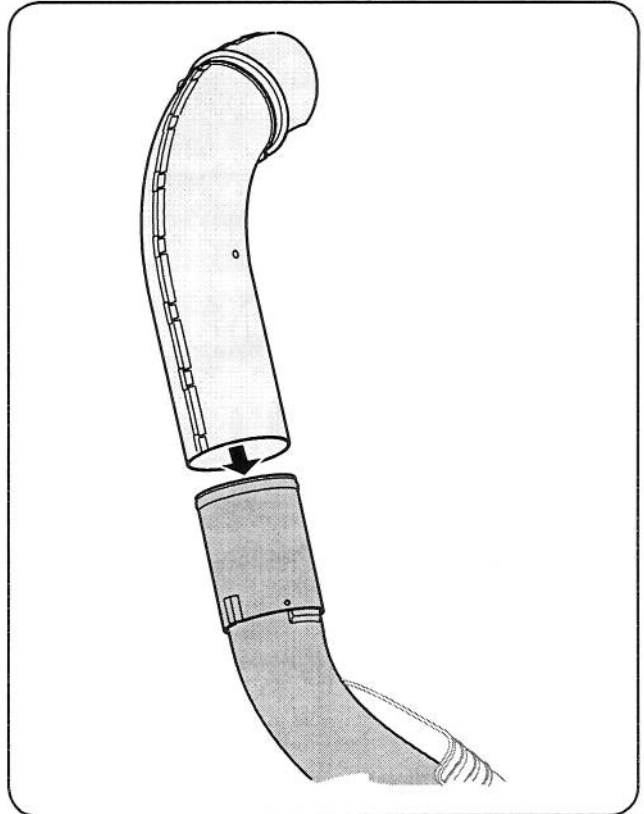
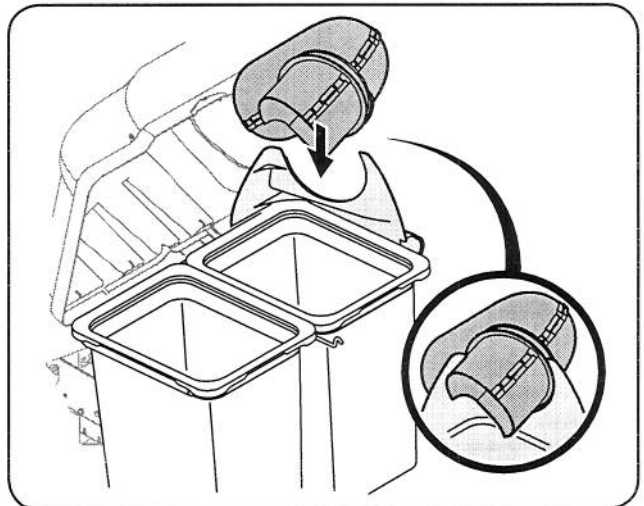

Figure 4-27
Figure 4-28
17. With the grass catcher cover open, install the discharge chute over the chute extension tube, as seen in Fig. 4-27, and rest the top end into the upper chute support installed on the right-hand side of the bag support assembly. See Fig. 4-28.
Note: The groove on the upper chute should be aligned with the upper chute support, as seen in the inset of Fig. 4-28.